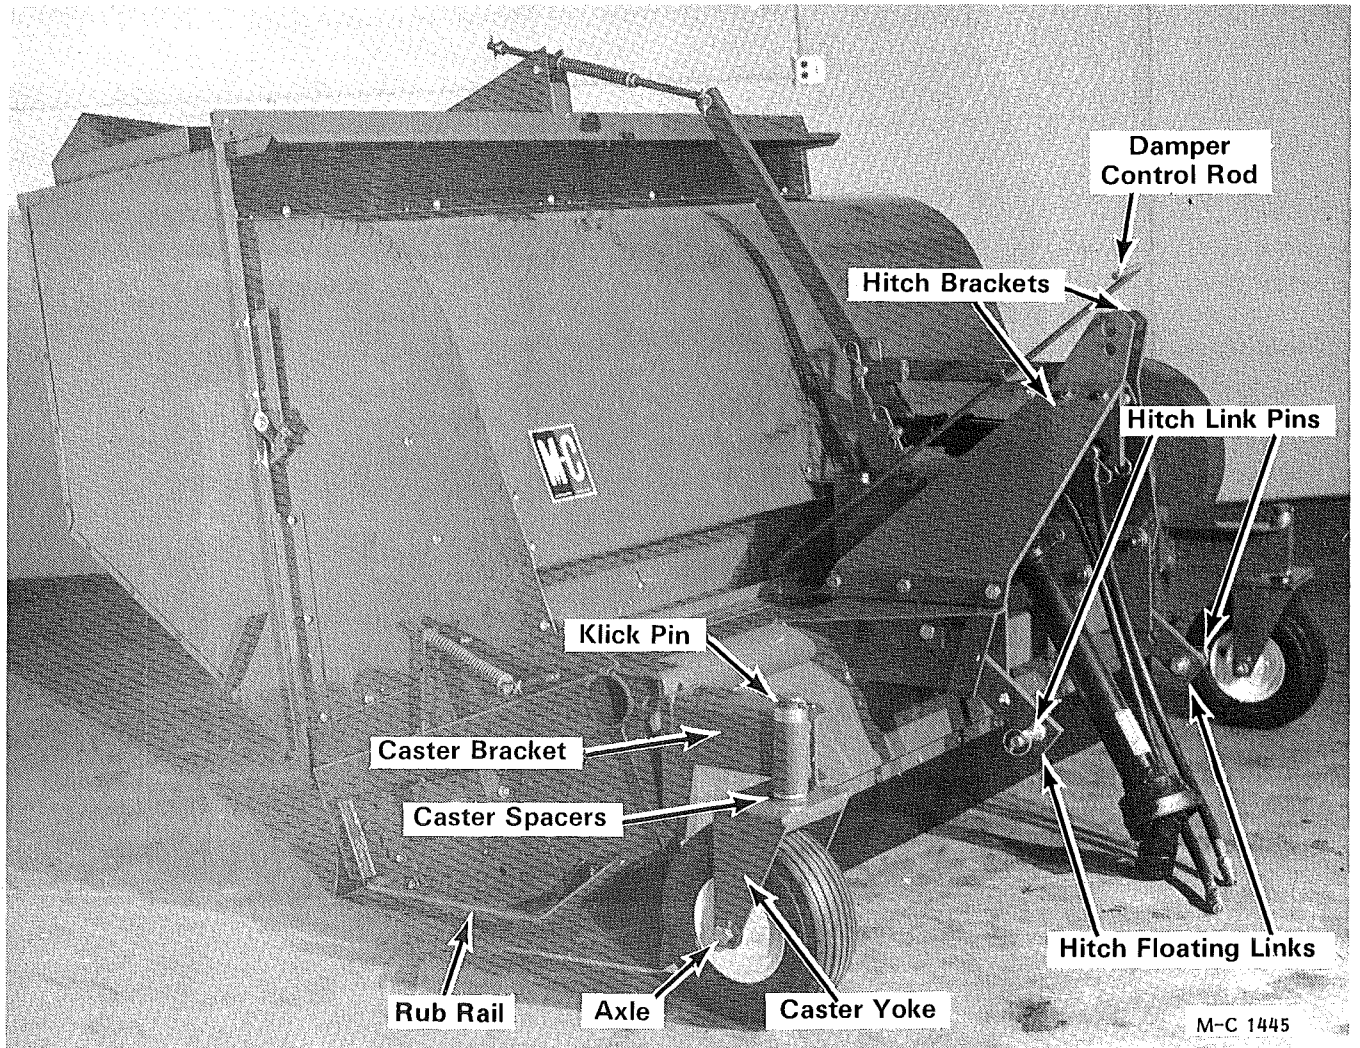

Figure 5
2. Place one 1-7/16" ID x 2" OD caster spacer on each caster yoke spindle and secure the caster yokes with 5/16" klick pins, see Figure 5.
1. Remove the hitch floating links from their shipping position and install them as shown in Figure 5. The cut off corner is to be up and to the rear. The head of the capscrew goes to the outside.
2. Install the hitch brackets on the body, see Figure 5. Secure with 5/8-11 x 1 1/2" hex-head capscrews (grade 5), lockwashers and hex-nuts (three each side).
3. Install the ram mount between the hitch brackets with 1/2-13 x 1 1/2" capscrews (grade 5), lockwashers and hex-nuts, see Figure 5.
1. Install the damper control rod through the guide hole in the ram mount, see Figure 5. Attach the damper control rod to the damper panel and secure with a 1/8 x 3/4" cotter pin.
2. Attach actuator rod assembly to hopper left brace using 5/8" bolt and locknut, see Figure 5.
1. To mow and load clippings, pull the damper panel control rod forward, see Figure 5. This opens the damper panel which allows clippings and/or leaves to travel up the chute and into the hopper.